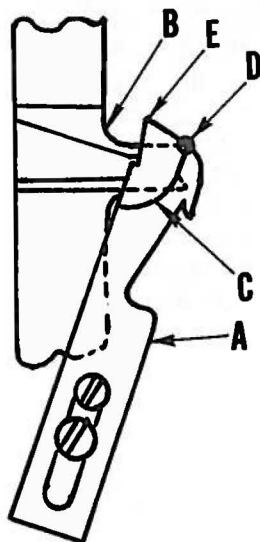
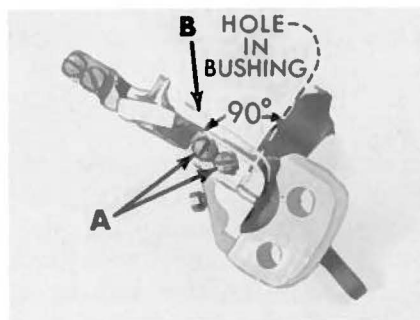
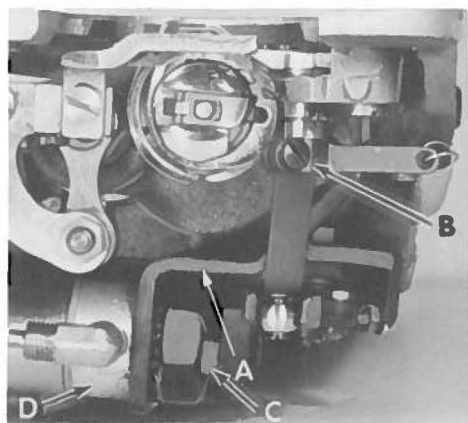
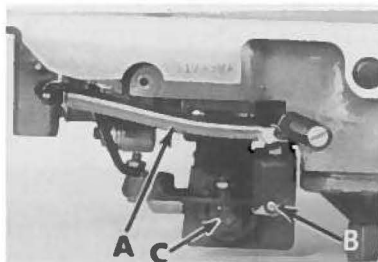

Fig. 16
Fig. 17
Fig. 19
Fig. 20
2. Position upper knife (D) parallel with the left side of the arm of the positioning finger. Check to see that the lower knife is parallel with the upper knife. If this is not so, loosen the finger set screw (E) and turn the eccentric bushing (F) until the knives are parallel. A good starting point would be to have the pin hole in the eccentric bushing (F) located approximately 90° to the right side of the arm of the positioning finger (Fig. 17).
The lower knife (A, Fig. 16) in its extreme left position should not extend beyond the left side of the arm of the positioning finger (B). If lower knife extends beyond this point adjustment will need to be made to the trimmer and air cylinder after the trimmer has been assembled to the machine (See Item #5). As the lower knife moves to the right, the run out of the cutting edge (C) must coincide at a point of the positioning finger as indicated at point (D). To make these adjustments loosen screws (A, Fig. 17) and position knife.
4. Locate the knife cylinder bracket (A, Fig. 19) as far back as possible and parallel with the line of feed.
5. If the lower knife (A, Fig. 16) extends beyond the left side of the arm of the positioning finger, the following adjustment will need to be made to the trimmer and air cylinder.
- Loosen screw (B, Fig. 19.)
- Adjust piston rod (C, Fig. 20) to stop internally by leaving .005 inch (.127 mm) minimum between nut (C, Fig. 19) and air cylinder (D). This is done by loosening nut (C) and turning the piston rod in or out. Retighten nut after .005 (.127 mm) space has been obtained.
- Position lower knife (A, Fig. 16) in its extreme left position to line up with the left side of the arm of the positioning finger (B) While holding in place tighten screw (B, Fig. 19).
6. Adjust the lower knife stop screw (B, Fig. 20) so when the lower knife is in its extreme right hand position, the left corner (E, Fig. 16) is in line with the left side of the needle slot in the bobbin case holder. CAUTION! Be sure knife does not hit the hook point.
7. Be sure the spring retainer wire (B, Fig. 17) enters the bobbin case holder cut-out when the lower knife is in its extreme right hand position. If the spring wire does not make contact, bend retainer wire to suit.
8. The knife return spring (A, Fig. 20) may be removed when bobbin over-spinning has become critical. The spring itself is a safety device to prevent the knife from opening up and interfering with the hook (if the air compressor should be off). To adjust for the slowest knife return, see Final Trimmer Valve and Presser Foot Assist Adjustment. NOTE: Knife return spring on 63400 LB, LC and LY are not the same as used on 63400 KA, KB and KC.
NOTE: To reduce bobbin spinning on light weight threads you may need to remove the return spring (A, Fig. 20).